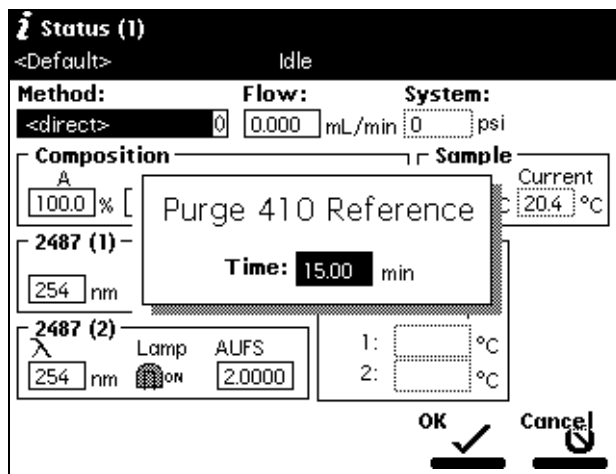

Figure 4-12 Purge 410 Reference Dialog Box
3. Select **Purge 410 Reference**, then press **Enter**. The Purge 410 Reference dialog box appears (Figure 4-12).